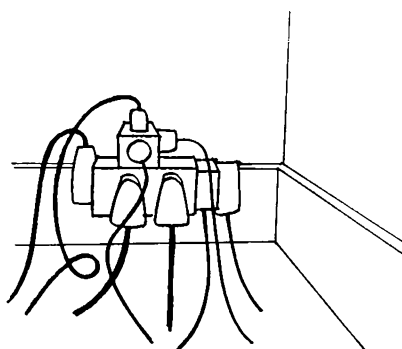

Fig. 92
92. Why is it bad practice to use adaptors on adaptors on adaptors? (Fig. 92)